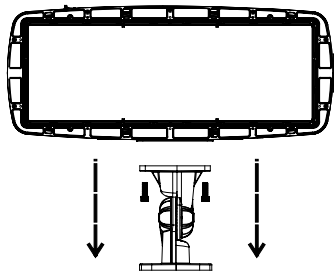

Figure 4
- Attach the bracket to the fixture with four (4) bolts by aligning it with the opening at the bottom of the fixture (Figure 4).